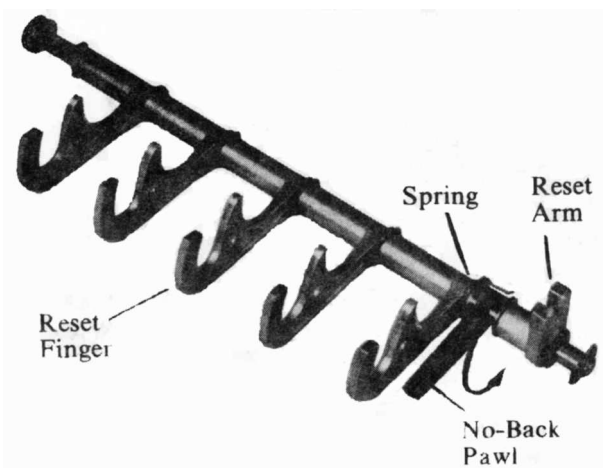

Figure 18. Reset Finger Shaft Group Preparation for Installation
- Rotate no-back pawl so that spring puts pawl under tension. Slip an elastic band over the reset fingers and pawl to hold pawl in position. See Figure 18.